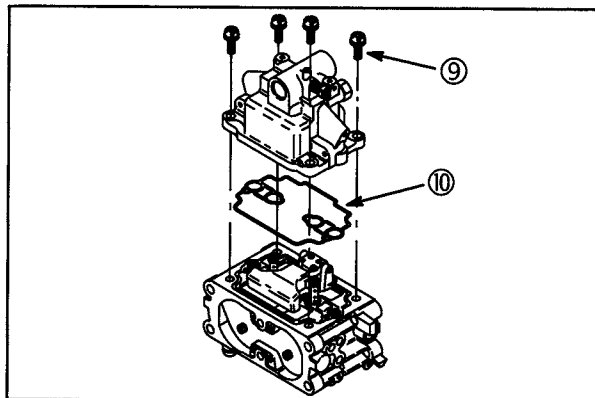

Fig. 62
4. Remove carburetor lower body screws (9). Lift lower body straight away from upper body, **Fig. 62**. Discard gasket (10).